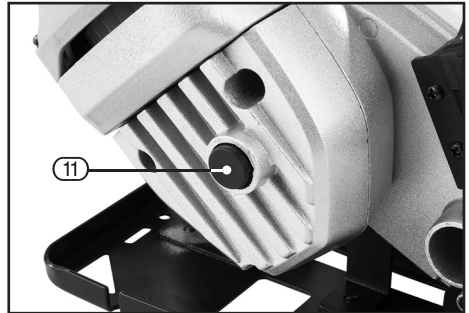
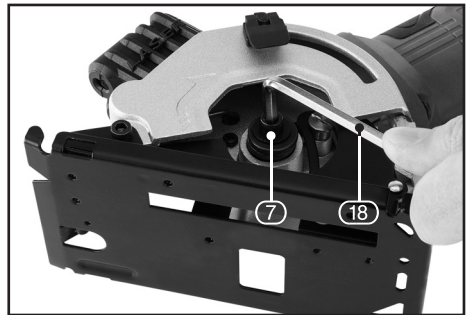

FIG.2
FIG.3
- Press and hold the spindle lock button (11) (Fig.2) and release the saw blade locking flange bolt (7) by using the supplied hex. key (18) (turn clockwise to release). Remove the saw blade locking flange bolt (7) (Fig.3).